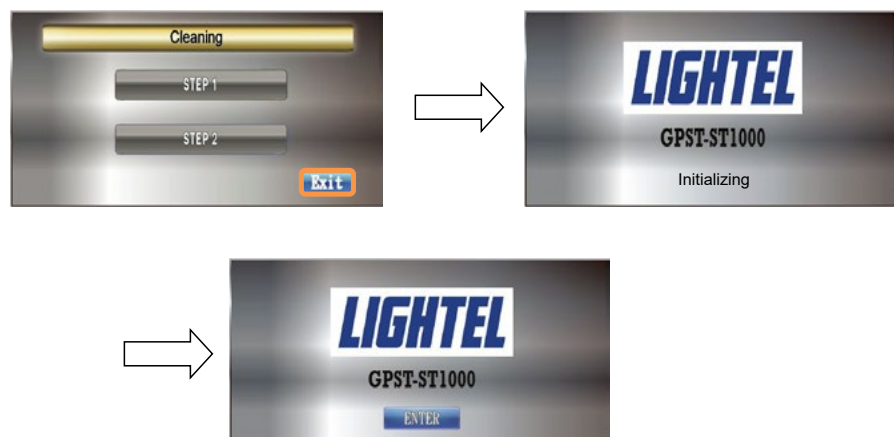

Figure 3.2.23
- f) Press **Exit** key to exit the Cleaning page and go back to the GPST-1000 initial ENTER page. (Fig. 3.2.23)